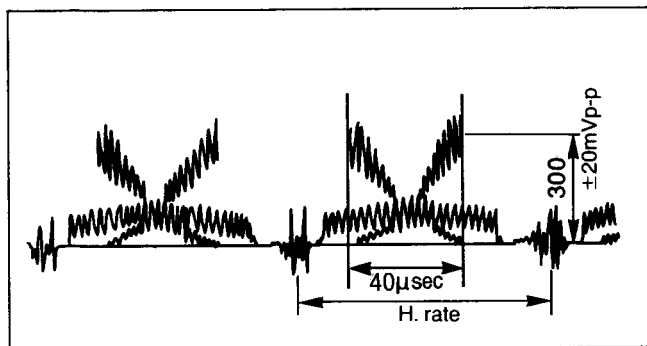

Fig. C11
- (1) Aim the camera at the gray scale chart.
- (2) Connect the scope to TP2 and trigger with Pin 12 of B302 (H-Rate).
- (3) Adjust the Camera Unit to obtain 40usec as shown in Fig. C11.
- (4) Adjust the AGC Control (VR304) so that the signal level is 0.30V  $\pm$  0.02Vp-p.